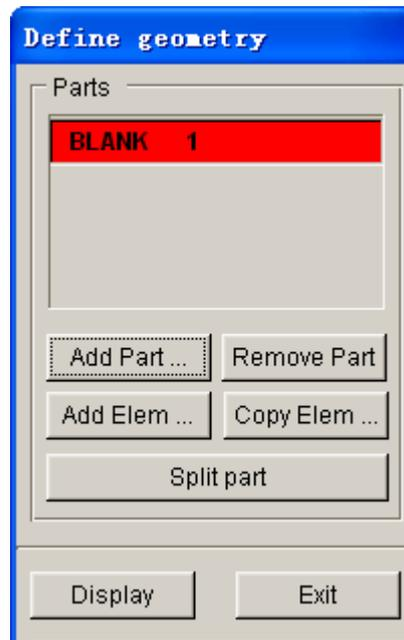

Figure 2.13 Blank geometry list
- 5. After selecting the part, you can click **OK** button to return to the DEFINE GEOMETRY dialog box. As illustrated in Figure 2.13, the **BLANK** part has been added to the list of blank.